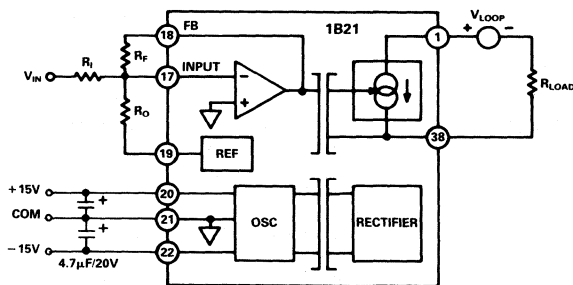

Figure 1. Basic Interconnections
**Input Configurations:** The 1B21 has been designed with a flexible input stage for a variety of input and output ranges. The basic interconnection for setting gain and offset is shown in Figure 1. The output of the internal amplifier is constrained to 0 to -5V, which maps into 0 to 20mA across the isolation barrier. Thus to create a 4mA offset at the output, the input amplifier has to be offset by 1V.
**TC Considerations of External Resistors:** The specifications for gain and offset temperature coefficient (TC) for the 1B21 exclude the effects of external components. The total gain TC for the circuit in Figure 1 is: